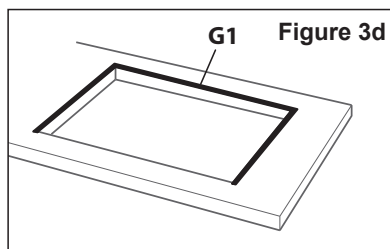

Figure 3d
- **Model DEGHBG70:** spread the longer seal “G1” around the left, rear and right sides (fig. 3d).